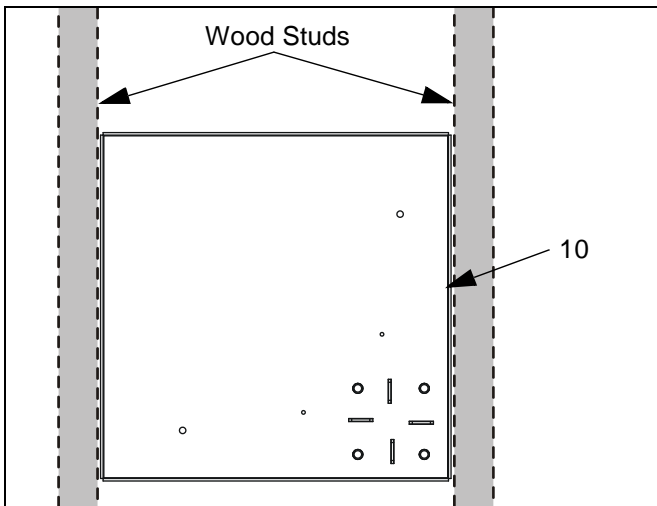

Figure 2: Open Wall
3. Center and level housing (10) between marked studs. Using housing (10) as a template, draw pencil line completely around housing (10) (See Figure 2).